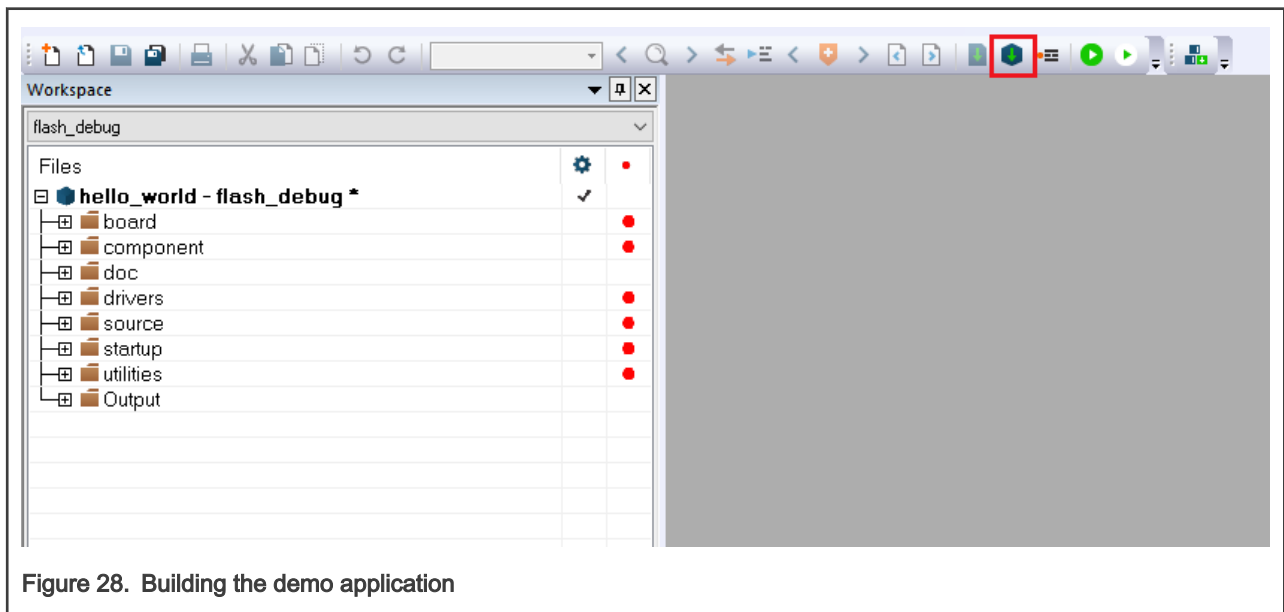

Figure 28. Building the demo application
- To build the demo application, click **Make**, highlighted in red in Figure 28.